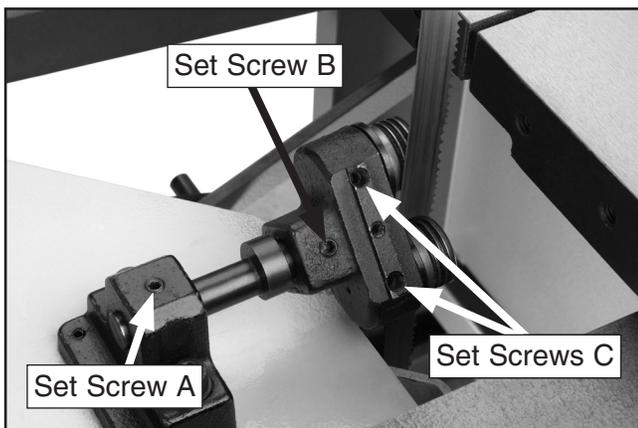

Figure 38. Lower blade guide assembly.
4. Loosen set screws A, B, and C on the lower blade guide assembly (**Figure 38**).